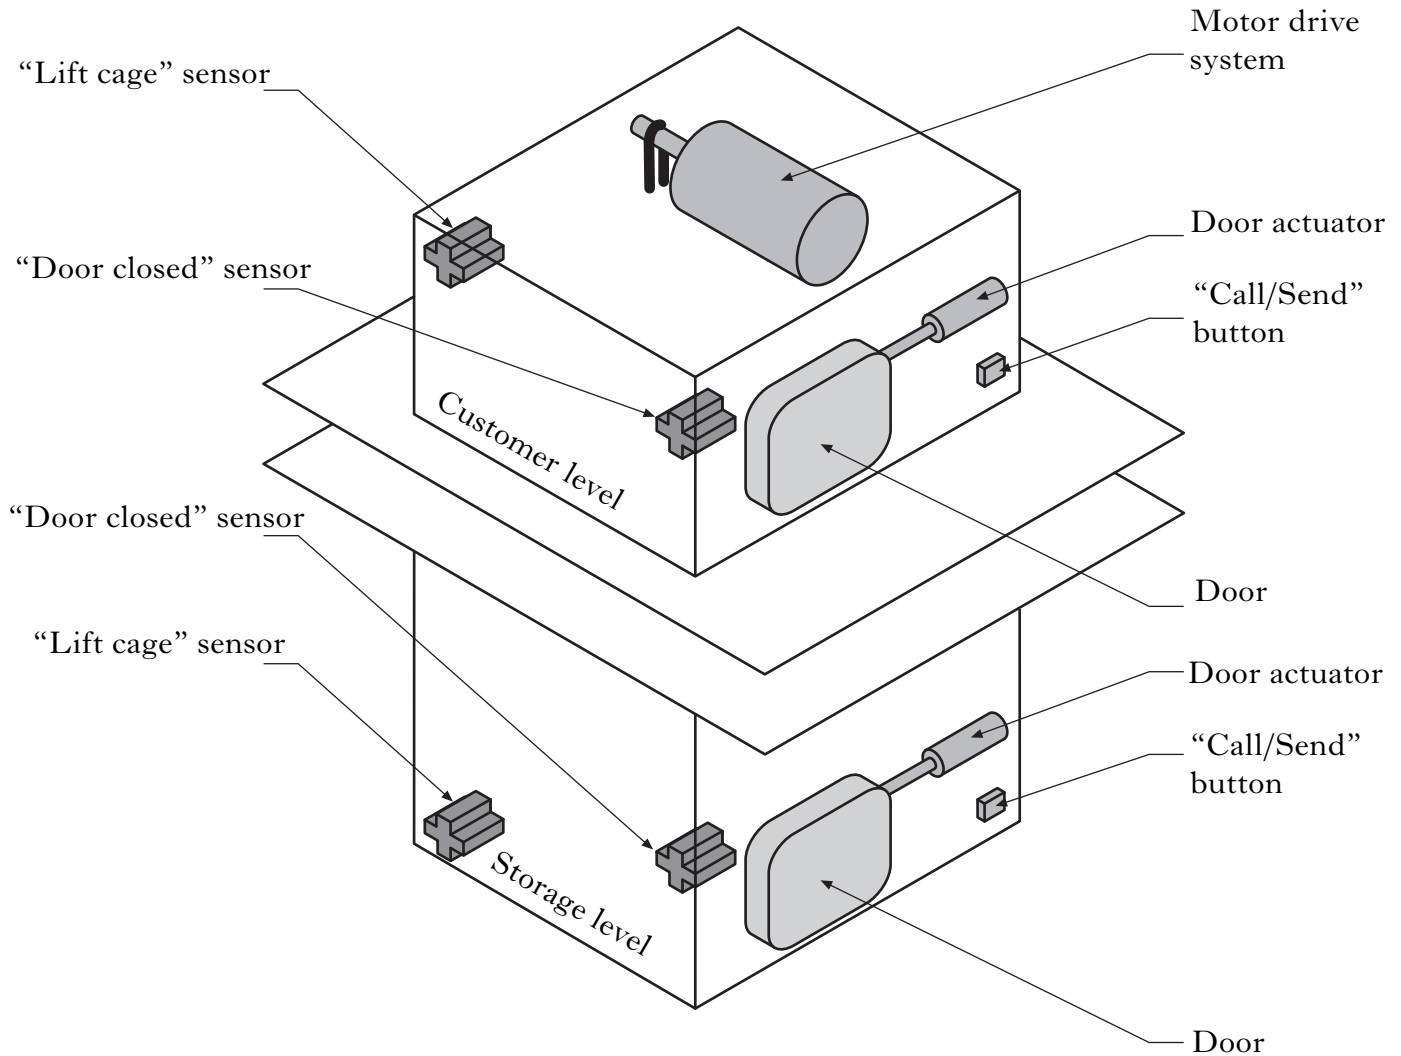

Figure Q12
12. Figure Q12 illustrates a simplified lift system used to move boxes between the “Storage level” and the “Customer level” in a catalogue retail outlet. The system is presently controlled by a microcontroller.